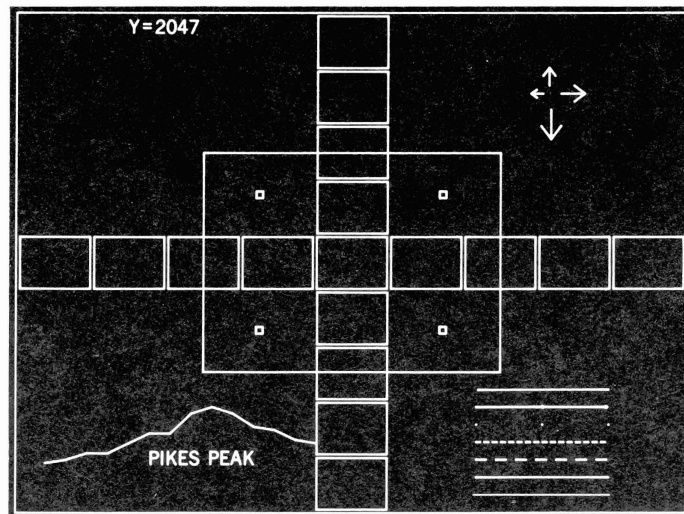

Figure 4-2. 1349A/D Primary Test Pattern
c. Check for a display as shown in figure 4-2.